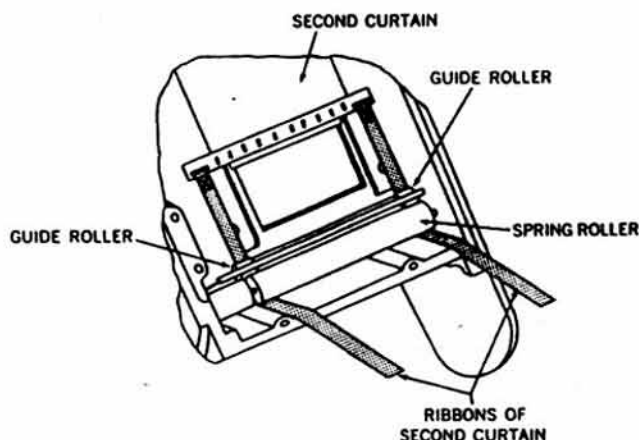

Figure 4-1. Positioning Second Curtain Ribbons.
(Fig. 4-1, 4-2)
- (1) Thread the ribbons under the guide rollers and under (behind) the second curtain spring roller (fig. 4-1).
- (2) Glue the ends of the ribbons on the second curtain spring roller.
- (3) Tension the second curtain spring roller until the metal bar of the first curtain engages the labyrinth of the second curtain.
- (4) Thread the second shutter curtain under the second curtain roller, and rotate the roller to its released position (holding bar slot on top).